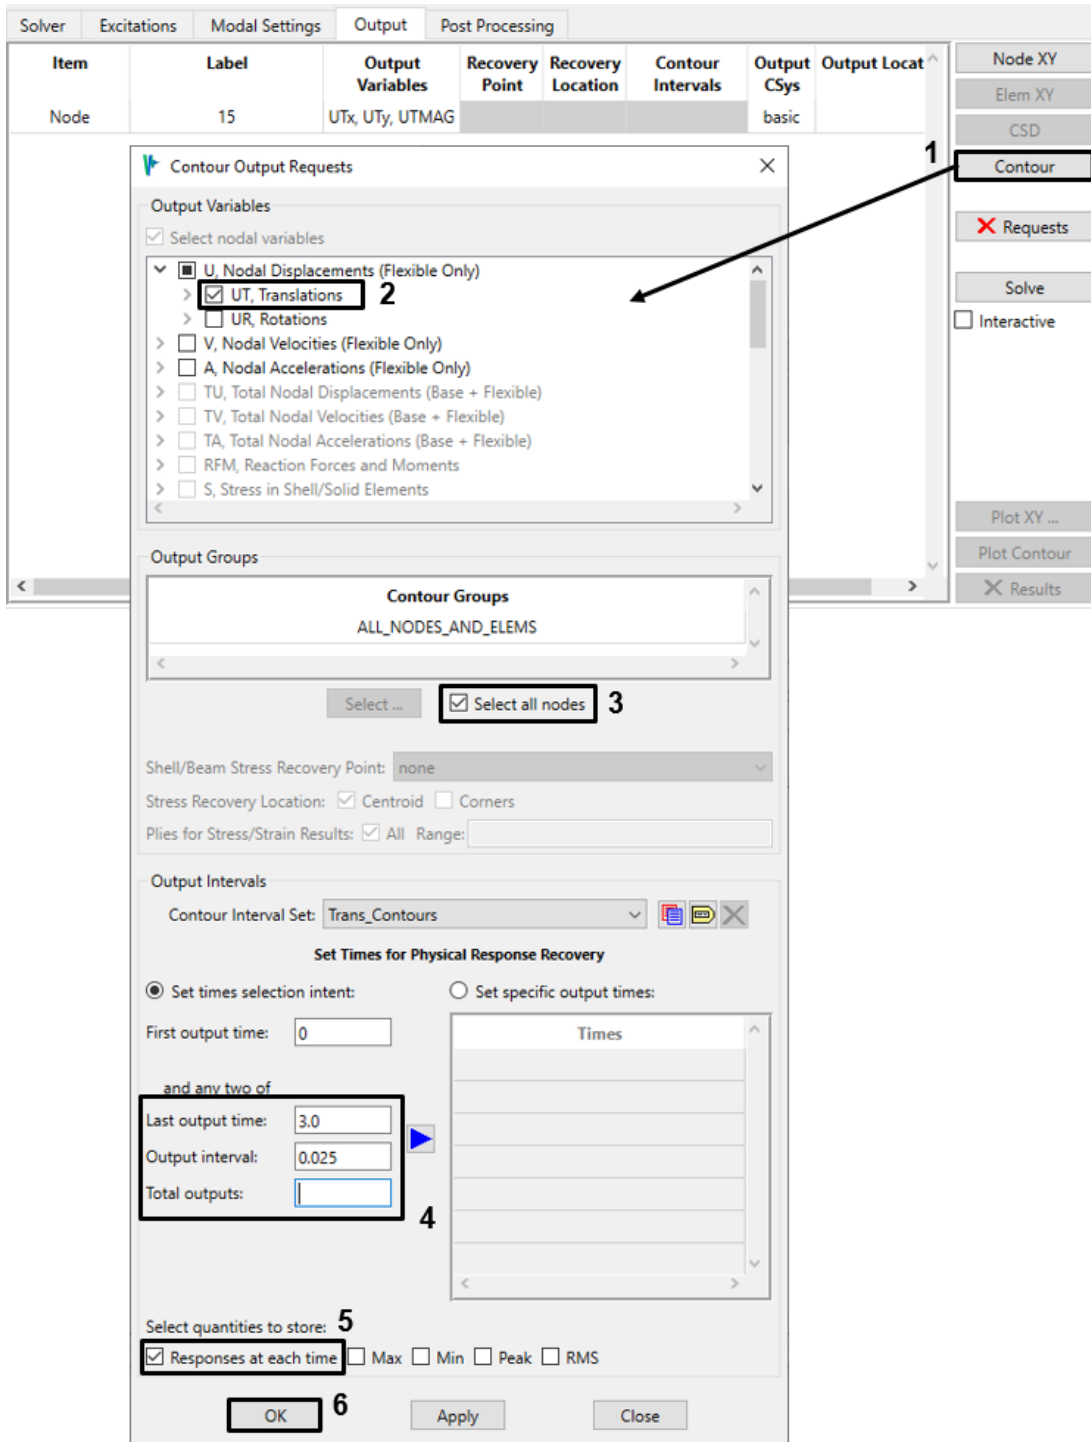
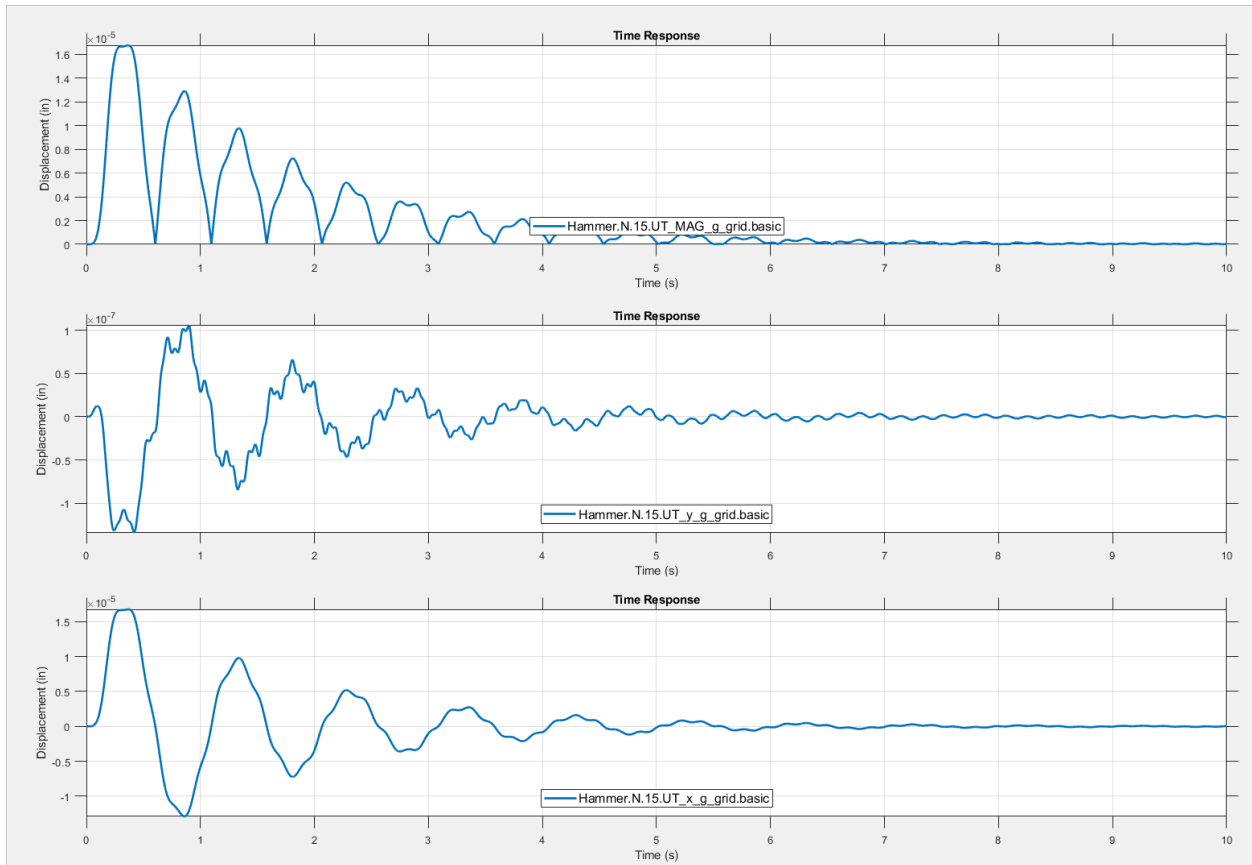

Figure 4-120. Request displacement (*UT*) contours for the first 3 seconds of the event.
Figure 4-121. Transient displacements for node 15.
- In order to create an animation of the structure in motion, create a contour request for displacement (UT) at all nodes (Figure 4-120). Enter 0.0 for the *First output time* and 3.0 for the *Last output time* to create contours from 0.0 to 3.0 seconds. We have selected 3 seconds as the end time because the structure's response will decay to about 30% of its maximum by then (see Figure 4-121). Set the *Output interval* to 0.025 (seconds) and leave *Total outputs* blank. This will produce 121 time frames for
- Solve the event. Click the **Plot XY** button to view the requested nodal displacement histories. These are shown in Figure 4-121 using the *stacked* plot mode. Note the different orders of magnitude on the Y-axis labels.